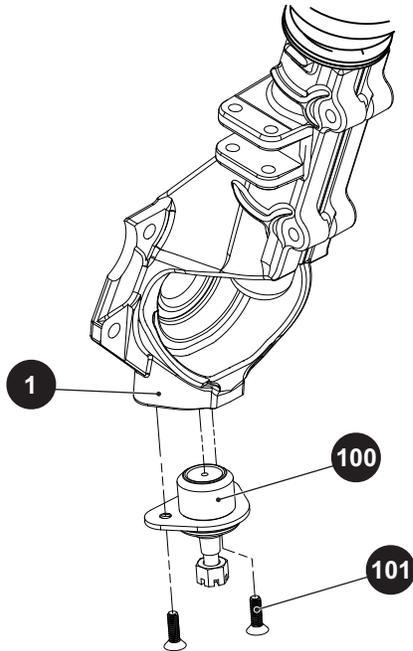

Fig. 3 Lower Ball Joint
- Remove the two screws (101) securing the lower ball joint (100) to the strut assembly (1) (Ref. Fig. 3).